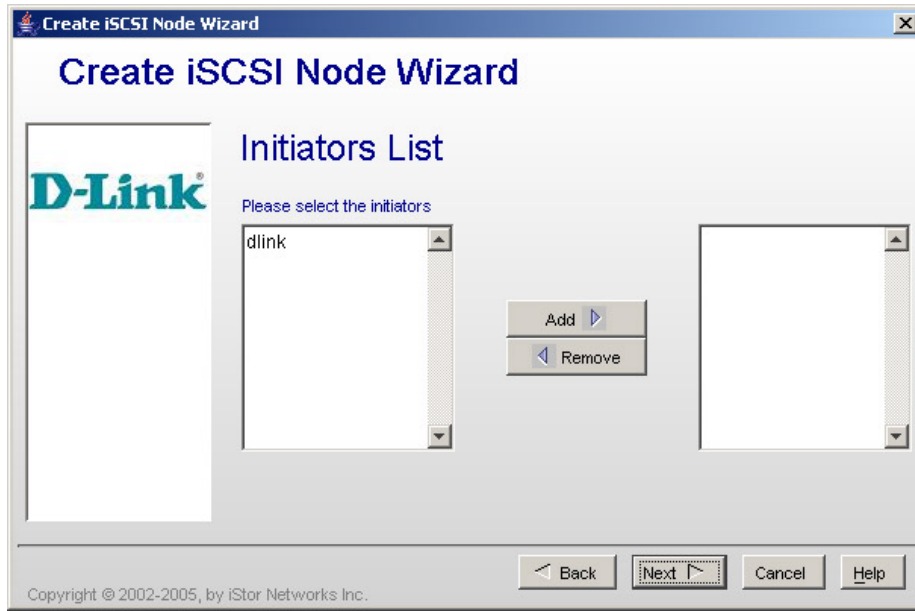

Figure 5-33 Create iSCSI Node Wizard – Initiator List Screen
8. Click **Next**. The initiators list screen appears (see Figure 5-33).